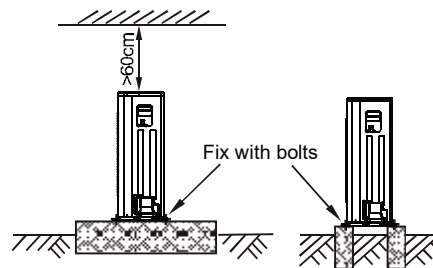

Fig. 8.5
- Mount on a firm, stable base in accordance with the specification of the outdoor units. (Refer to Fig. 8.5).